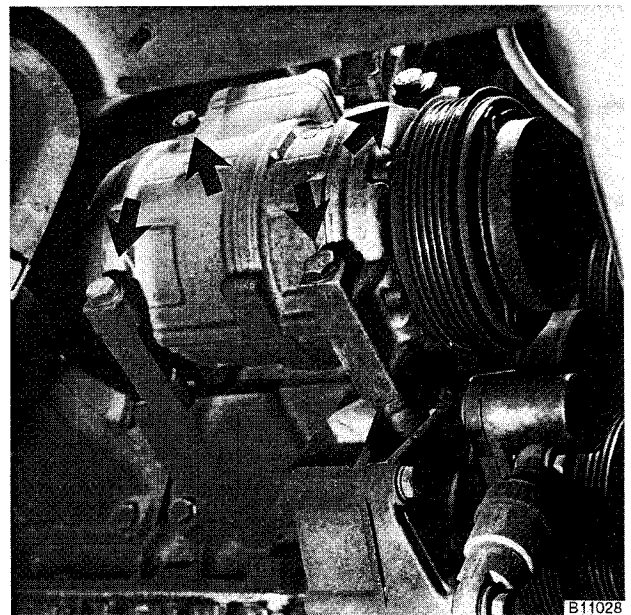

Fig. 15. A/C compressor mounting bolts (**arrows**).
21. Remove A/C compressor from its mounting bracket without disconnecting any refrigerant lines. See Fig. 15.